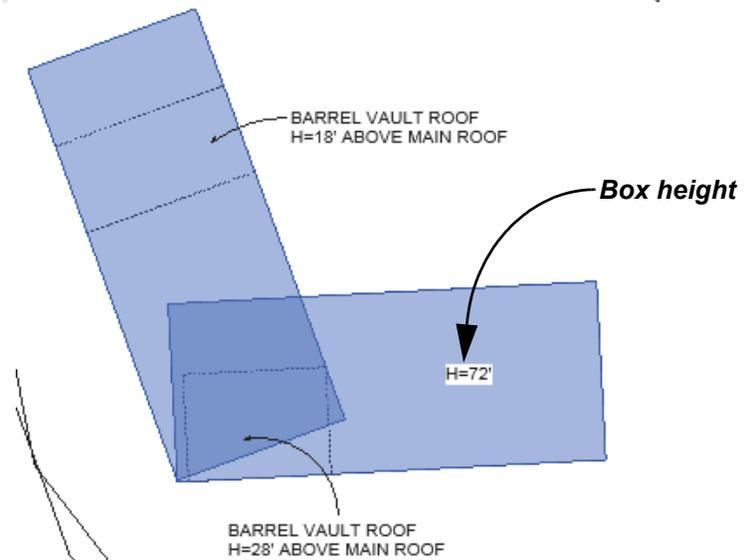

Figure 1-22
7. For the angled building, use two box masses to create the base building, as shown in Figure 1-22. The two masses need to overlap slightly. Set the height of both of them as shown in the plan view.